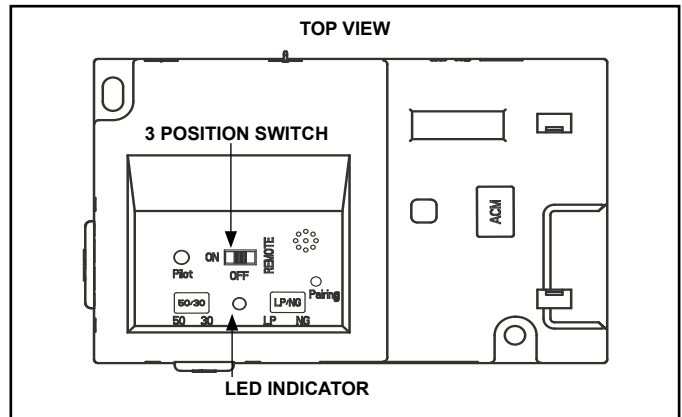

Figure 3.10 IFT-ECM
- 1. The Electronic Control Module (IFT-ECM) has a three-position ON/OFF/REMOTE selector switch that must be set for proper operation. See Figure 3.10. When changing switch positions, it is important to pause in each position for 1-2 seconds.